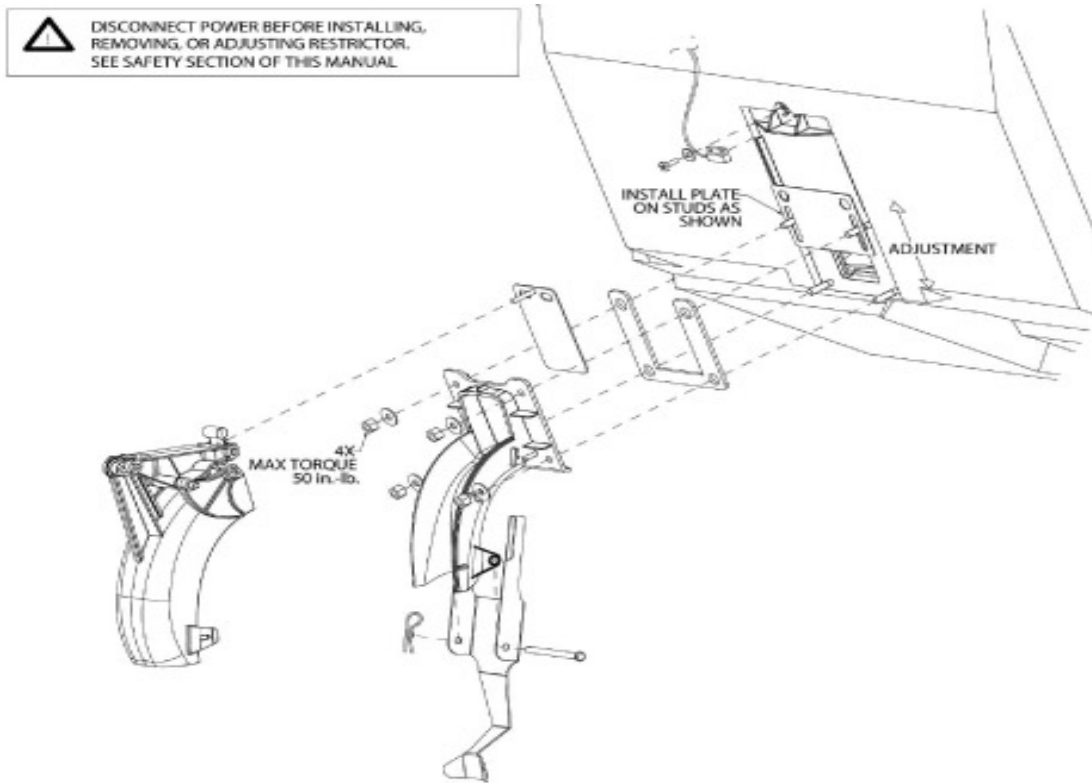

Figure 1. Gate Restrictor Plate
The rate at which ice is dispensed can be adjusted by varying the opening of the gate restrictor plate as illustrated in Figure 1. Reducing the dispense rate of ice is especially desirable when using glasses or other containers with small openings. To adjust the gate restrictor plate, loosen the (4) nuts that hold the ice chute assembly to the bin. The restrictor plate can now be moved up or down. When the restrictor plate is fully up, the ice gate opening is 2-1/2" in height, and the maximum rate of ice dispense is available (approximately 3 oz/sec). Retighten the (4) nuts to set the desired restrictor plate opening. **DO NOT EXCEED 40 IN-LB of torque.**